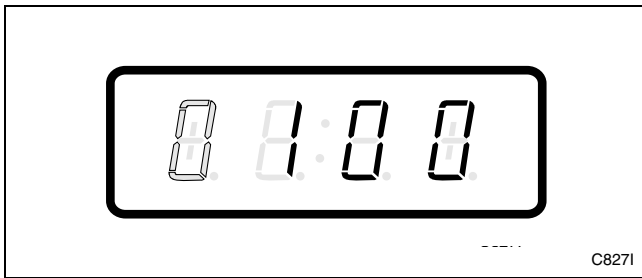

Figure 101
6. Press the START (enter) keypad to enter the fifth digit and display remaining four digits. The active digit will flash one second on and one second off. Refer to *Figure 101*.